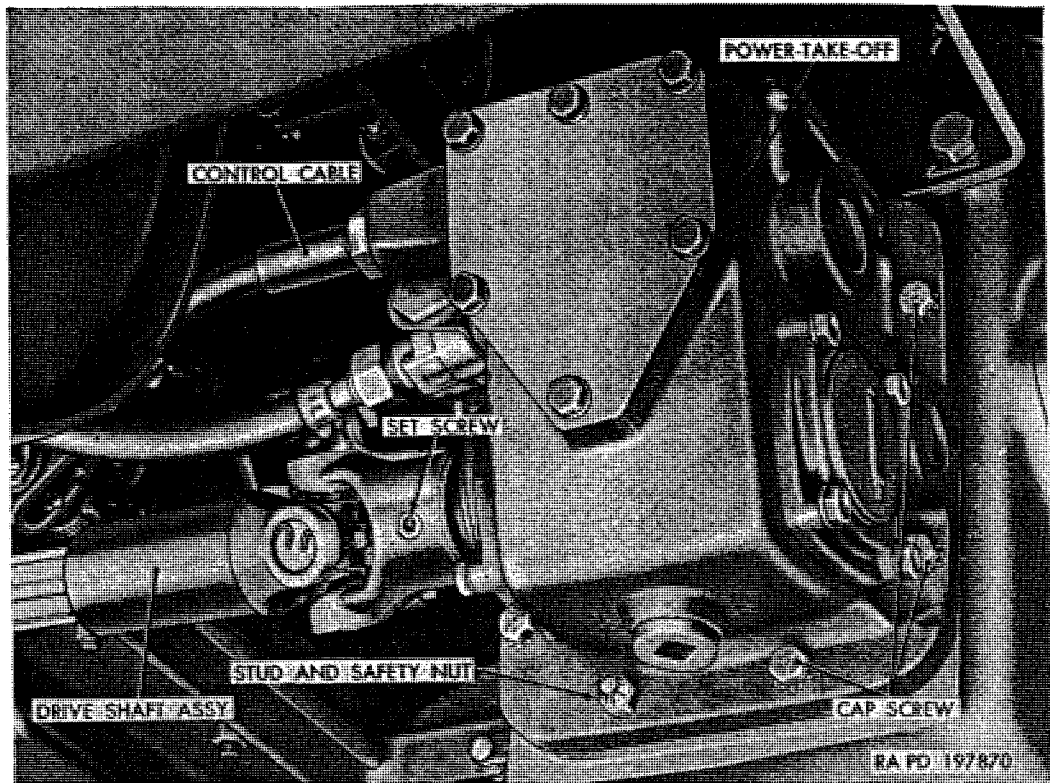
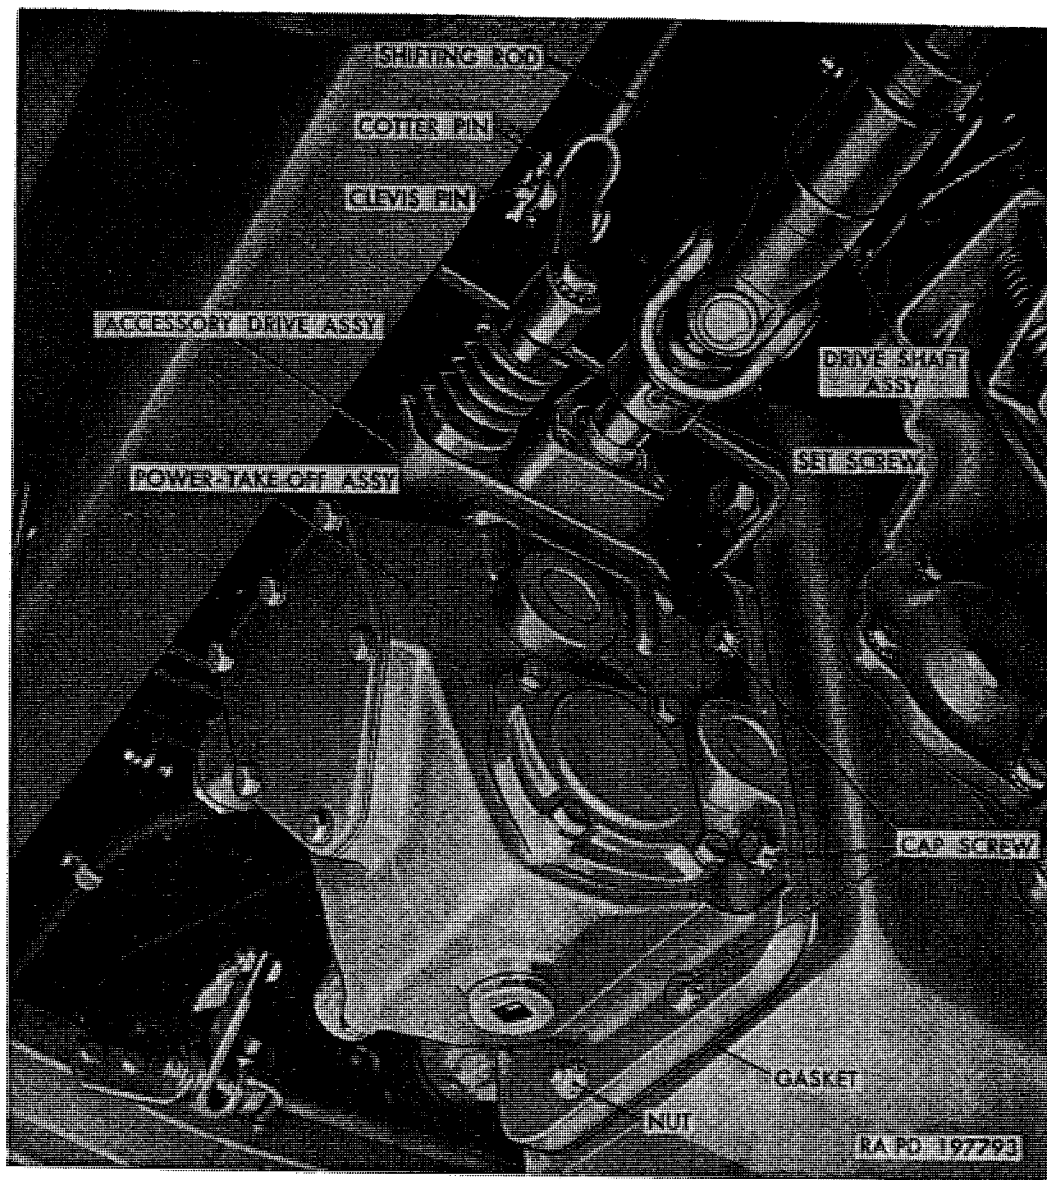
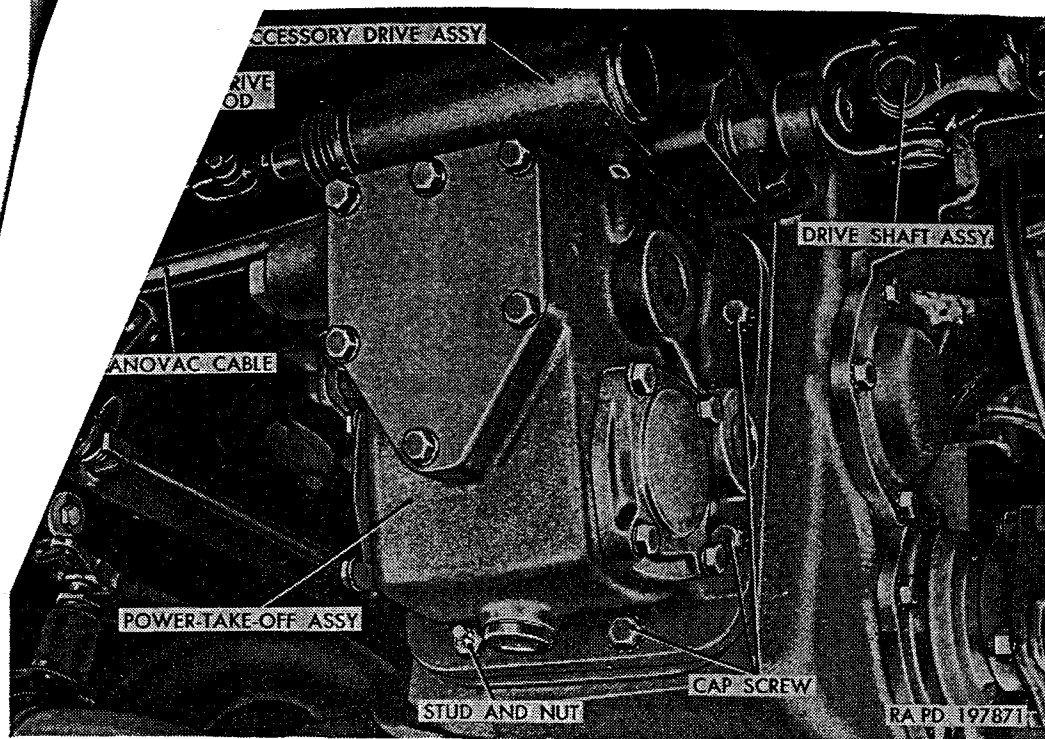

Figure 221. Power-take-off installed (winch only).
Figure 222. Power-take-off installed (dump body hoist).
Figure 223. Power-take-off installed (gasoline and water tank pump).
a. General. The arrangement of power-take-off and accessory drive assemblies are similar in their mounting and controls as illustrated in figures 221, 222, and 223. Removal procedures for each type are described in *b*, *c*, and *d* below.
b. Removal of Winch Power-Take-Off (fig. 221).
- (1) Remove plug from bottom of power-take-off to drain lubricant.
- (2) Loosen setscrew securing universal joint yoke to power-take-off shaft; then slide yoke forward to remove from power-take-off shaft.
- (3) Remove control cable from power-take-off (par. 321*b*).
- (4) Remove six cap screws and lockwashers, and two stud nuts attaching power-take-off to transfer. Remove power-take-off assembly from transfer. Remove and discard gasket.
c. Removal of Dump Body Hoist Power-Take-Off (fig. 222).
- (2) On vehicles equipped with winch, disconnect drive shaft universal joint yoke (b(2) above). Remove control cable from power-take-off (par. 321b).
- (3) Remove setscrew securing hoist pump drive shaft yoke to accessory drive assembly; then slide yoke rearward to remove from shaft.
- (4) Remove cotter pin and clevis pin attaching shifting rod to accessory drive shifter shaft.
- (5) Remove six cap screws and lockwashers, and two stud nuts attaching power-take-off to transfer. Remove power-take-off from transfer. Remove and discard gasket.
d. Removal of Tank Body Pump Power-Take-Off (fig. 223).
- (2) Remove pump front propeller shaft (par. 345b).
- (3) Remove cotter pin and clevis pin; then remove shift rod at accessory drive shift shaft.
- (4) Remove nut attaching Mechanovac governor control cable to accessory drive assembly; then remove cable.
b. Installation of Winch Power-Take-Off (fig. 221).
- (1) Position two new gaskets over studs and against transfer. Position power-take-off over two studs and against transfer. Install one $\frac{3}{8}$ -24 nut on each of the two studs. Install six $\frac{3}{8}$ -16 x $1\frac{1}{8}$ cap screws and $\frac{3}{8}$ -inch lockwashers. Tighten stud nuts and cap screws evenly and alternately.
- (2) Fill transfer with lubricant as directed in paragraph 207*c*.
- (3) Install control cable (par. 321*c*).
- (4) Install $\frac{1}{4}$ x 1 woodruff key in power-take-off shaft keyway. Install rear universal joint on splined rear shaft; then slide joint rearward and onto power-take-off shaft, alining keyway
c. *Installation of Dump Body Hoist Power-Take-Off* (fig. 222).
- (1) Install power-take-off (b(1) above); then fill transfer with lubricant as directed in paragraph 207c.
- (2) On vehicles equipped with winch, connect drive shaft universal joint to power-take-off (b(4) above). Connect control cable (par. 321c).
- (3) Connect shifting rod to accessory drive shift shaft, using $\frac{1}{2}$ x $1\frac{3}{4}$ clevis pin and $\frac{1}{8}$ x $\frac{7}{8}$ cotter pin.
- (4) Install one $\frac{1}{4}$ x $\frac{7}{8}$ woodruff key in accessory drive shaft. Aline drive shaft yoke keyway with drive shaft key; then tap yoke with soft hammer until in position on shaft. Install and tighten a $\frac{3}{8}$ -16 x $\frac{1}{2}$ socket-head setscrew which attaches yoke to shaft. Prick punch head of setscrew to prevent loosening.
d. *Installation of Tank Body Pump Power-Take-Off* (fig. 223).
- (1) Install power-take-off (b(1) above); then fill transfer with lubricant (par. 207c).
- (2) Connect shifting rod to accessory drive shift shaft eye, using $\frac{3}{8}$ x $1\frac{5}{16}$ clevis pin and $\frac{3}{32}$ x $\frac{5}{8}$ cotter pin.
- (3) Insert end of Mechanovac governor control cable into opening in accessory drive; then tighten retaining nut.
- (4) Install pump front propeller shaft as directed in paragraph 345c.